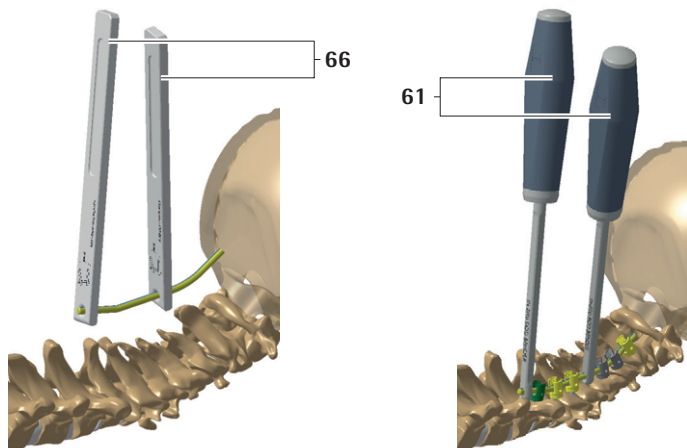

Fig. 27
- ▶ To use the rod bending plates **66**, insert the rod in the distal hole of the bending plates. Contour the rod, see Fig. 27.